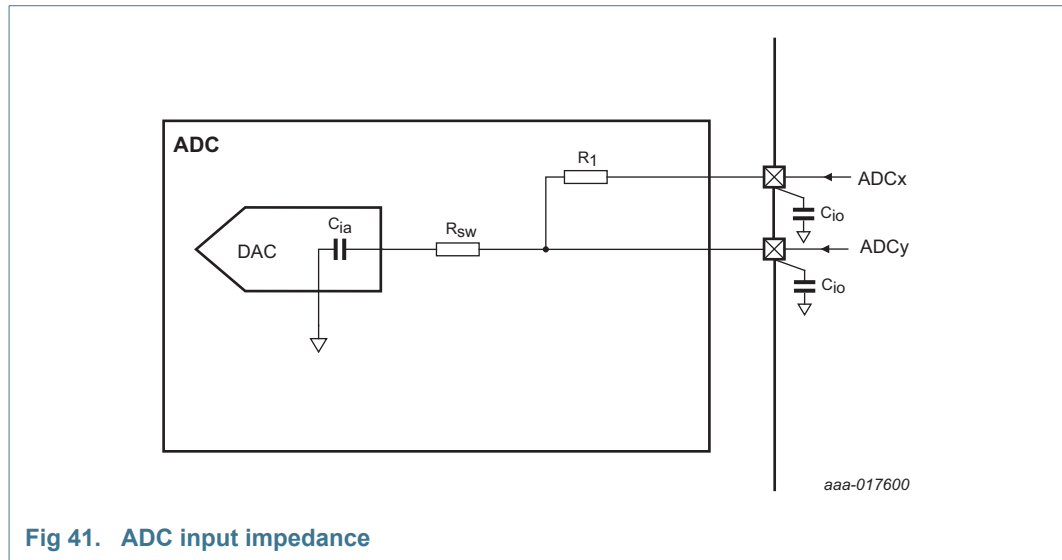

Fig 41. ADC input impedance
- [10] Input impedance  $Z_i$  is inversely proportional to the sampling frequency and the total input capacity including  $C_{ia}$  and  $C_{io}$ :  $Z_i \propto 1 / (f_s \times C_i)$ . See Table 21 for  $C_{io}$ . See Figure 41.
- (1) Example of an actual transfer curve.
- (2) The ideal transfer curve.
- (3) Differential linearity error ( $E_D$ ).
- (4) Integral non-linearity ( $E_{L(adj)}$ ).
- (5) Center of a step of the actual transfer curve.
Figure 41 shows the ADC input impedance. In this figure: